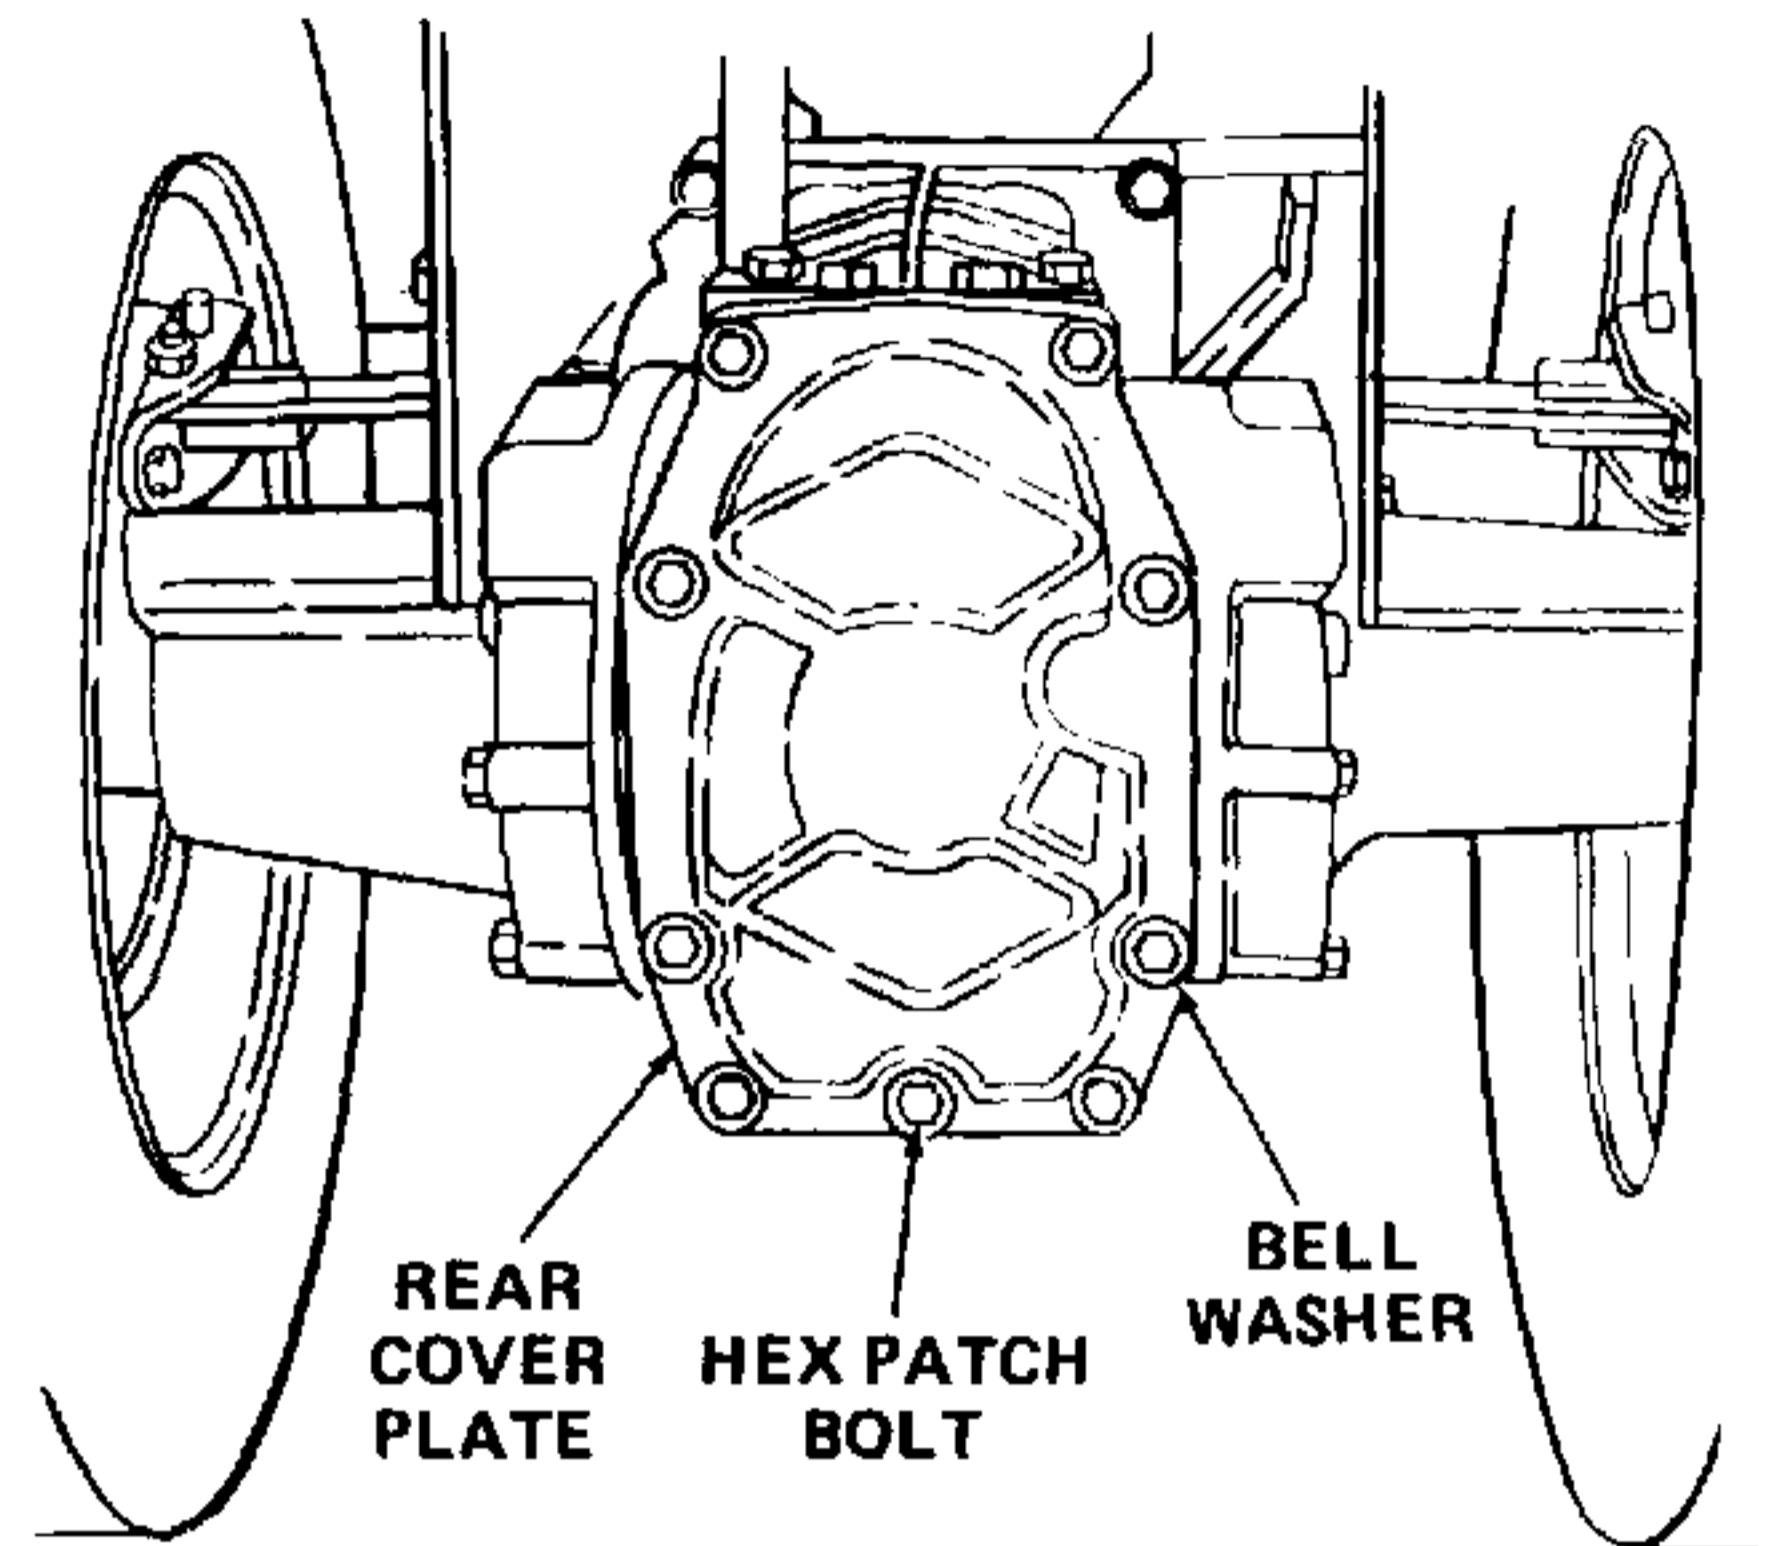

Figure 7-7. Removing Rear Cover Plate.
14. Remove rear cover plate from differential. Refer to Figure 7-7.